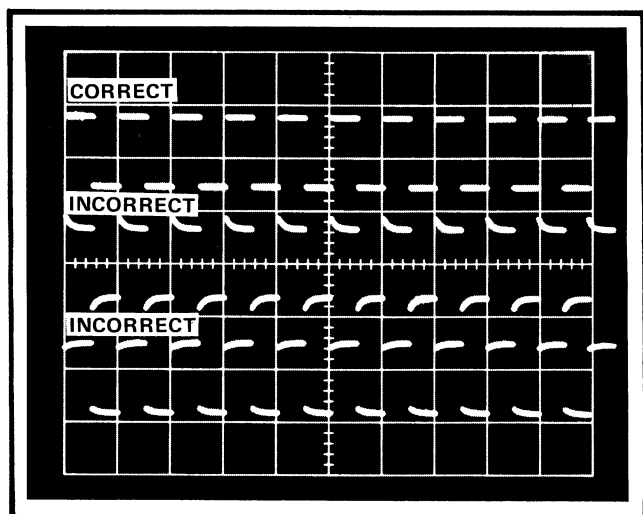
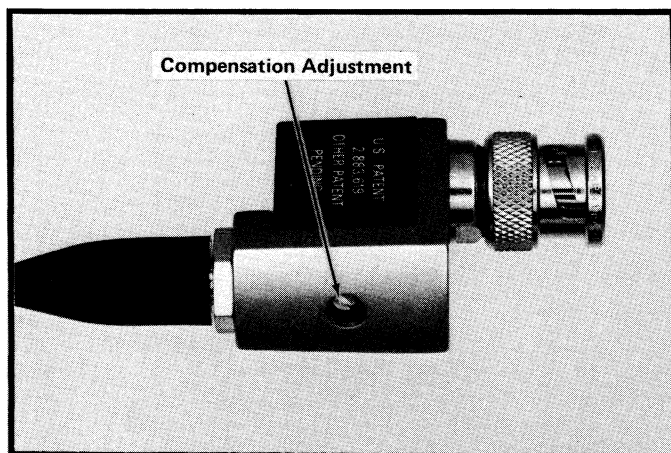

Fig. 2-2. Probe low-frequency compensation.
Fig. 2-3. Location of probe low-frequency compensation adjustment.
Low-frequency compensation is accomplished by touching the probe tip to a square wave source (typically 1 kHz from the oscilloscope Calibrator) and adjusting the observed waveform to have a flat top and square corners. Fig. 2-2 shows the effect of this adjustment. Location of the adjustment is shown in Fig. 2-3.
4. Adjust C8 (Fig. 2-3), through the access hole in the compensation box, for optimum pulse flat top. Fig. 2-2 illustrates correct and incorrect square wave response.